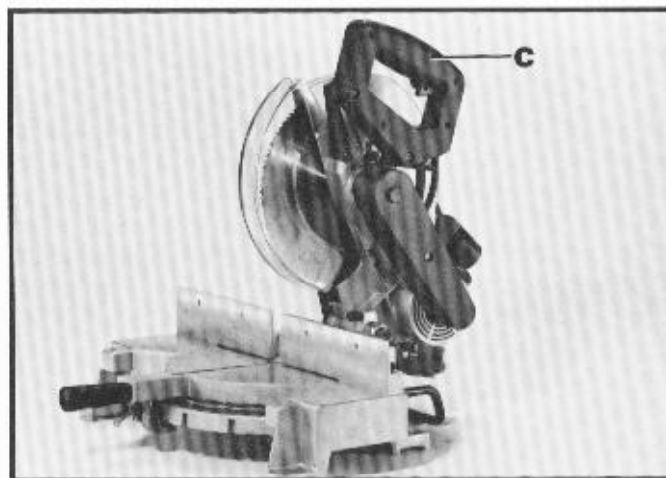

Fig. 29
Fig. 29 illustrates the handle (C) in the highest position which is used when the miter box is being operated on the floor.